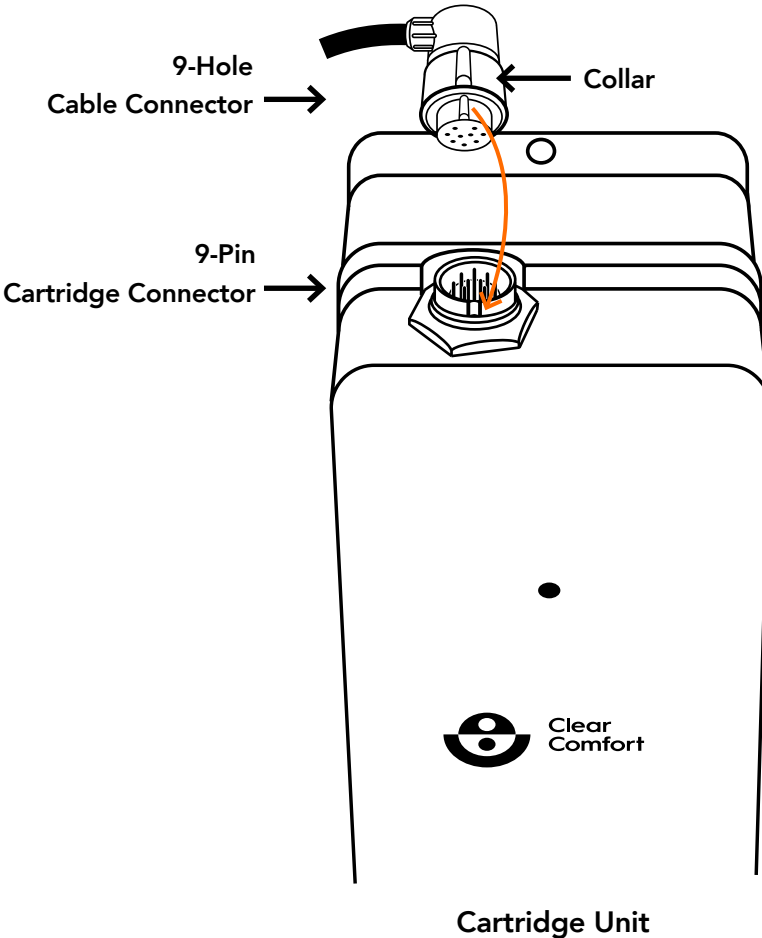

Figure 3: Cartridge Connection
Gently align the notched outdent on the front of the Cable Connector with the keyed indent of the front of Cartridge Connector, as shown with the arrow in Figure 3. Seat the Cable Connector down onto the Cartridge Connector and turn the Cable Connector's Collar a quarter-turn clockwise to lock the Cable and Cartridge Connector together. If a strange light pattern occurs, disconnect cable assembly and reconnect.
7. Reconnect top connection wire by inserting the Cable Connector into Cartridge Connector and turning a quarter turn, see Figure 3 for detailed instructions. If cable is properly connected, the system can be safely turned ON.